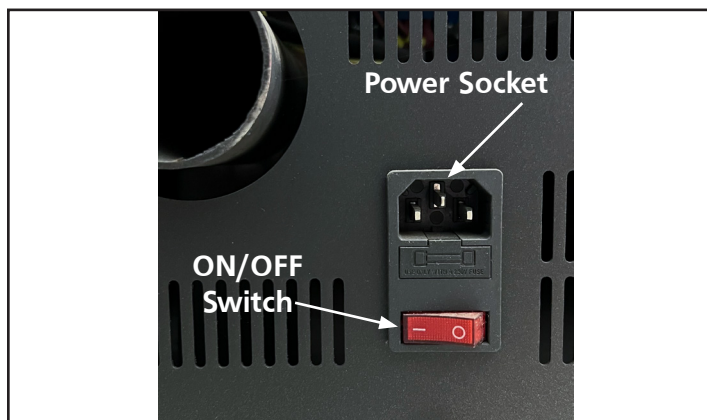

Figure 16: Power Socket/ON/OFF Switch
1. Plug power cord into socket on the rear bottom of stove and press the red ON/OFF toggle switch above it to ON. See Figure 16.